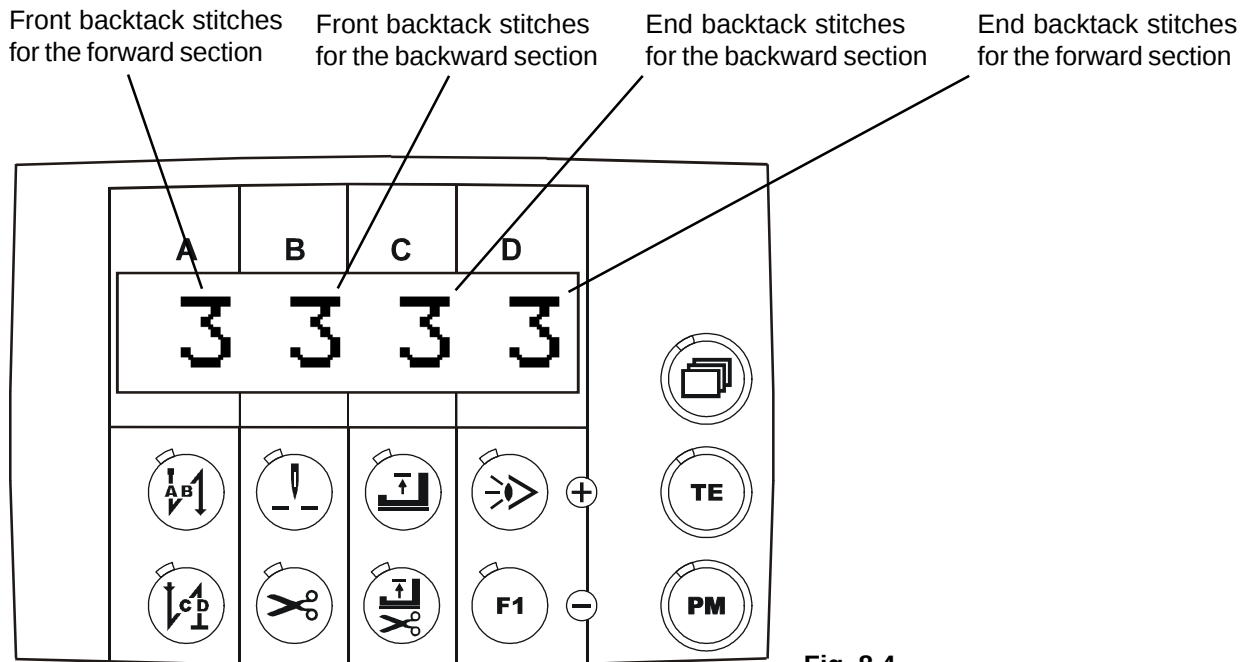

Fig. 8.4
- 4.2 Press the paging key until the display **Fig. 8.4** appears